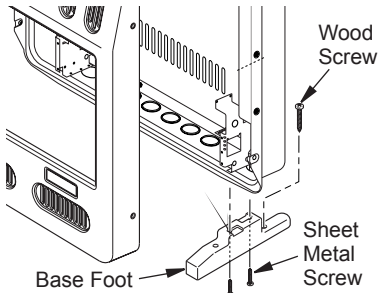

Figure 13 - Installing Base Feet (actual heater may vary from illustration)
3. Align holes in base foot with mounting holes on bottom of cabinet (see Figure 13).
4. Reposition heater with base feet over holes. Secure base to floor with wood screws. See Figure 13.